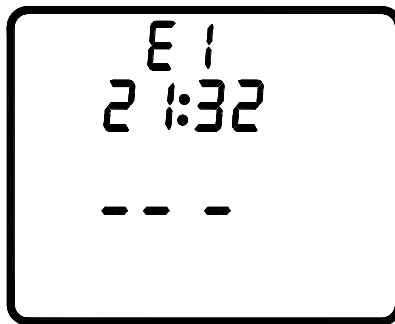

Fig . 4: Temperature sensor open/short
1.1 When the system is initially powered on, the LCD will display current clock and water temperature. If the temperature sensor is faulty - open or short, it will display "E1" (Fig. 4). The "---" means that system is under standby status, the preheating and circulation cleaning is not working and closed.